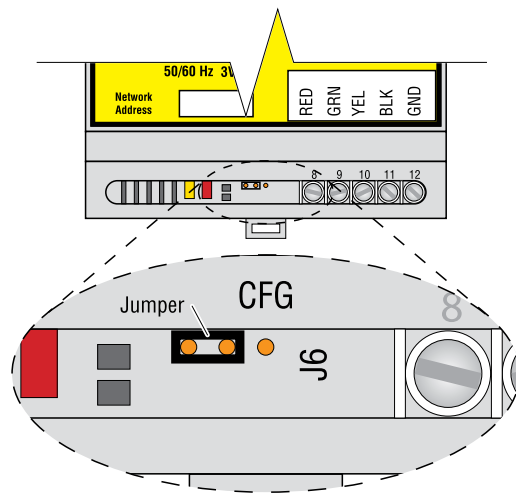

Figure 7b. Configuration Jumper Set for Normal Operation
- Place the configuration jumper in the normal operating position, as shown in Figure 7b, or remove it completely (the jumper is not required in normal operation).